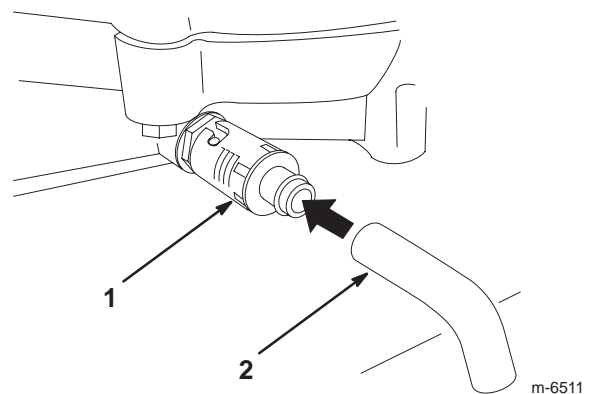

Figure 30
5. Place a pan below the drain hose. Rotate the drain valve to allow the oil to drain (Fig. 30).
6. When the oil has drained completely, close the oil drain valve and remove the drain hose (Fig. 30).